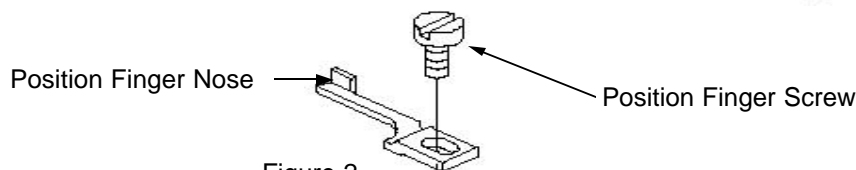

Figure 2
4. Move Position Finger left of right to center Position Finger nose with needle. *See figure 2*